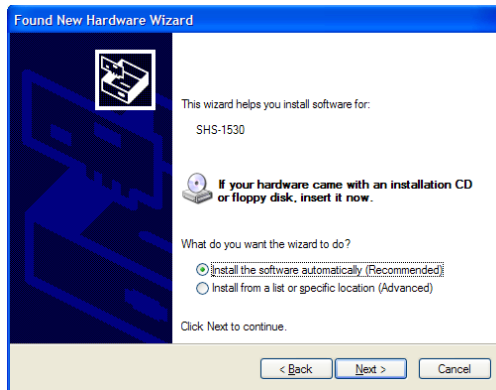

Figure 8
4. Select “Install the software automatically” and click “Next”. (Figure 8)